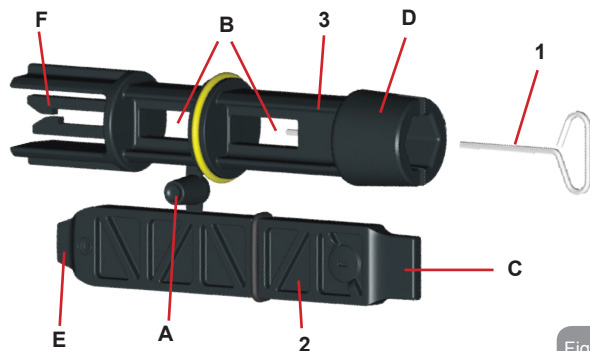

Figure 23
- 1 - metal key with a hexagonal section (Fig.23 – 1);
- 2 - flat plastic key (Fig.23 – 2);
- 3 - cylindrical plastic key (Fig.23 – 3).
Key “1” is in turn inserted in the end “D” of key “3”. At the first use you must separate the 2 plastic keys “2” and “3”, which are supplied joined by a bridge (Fig.23 – A):